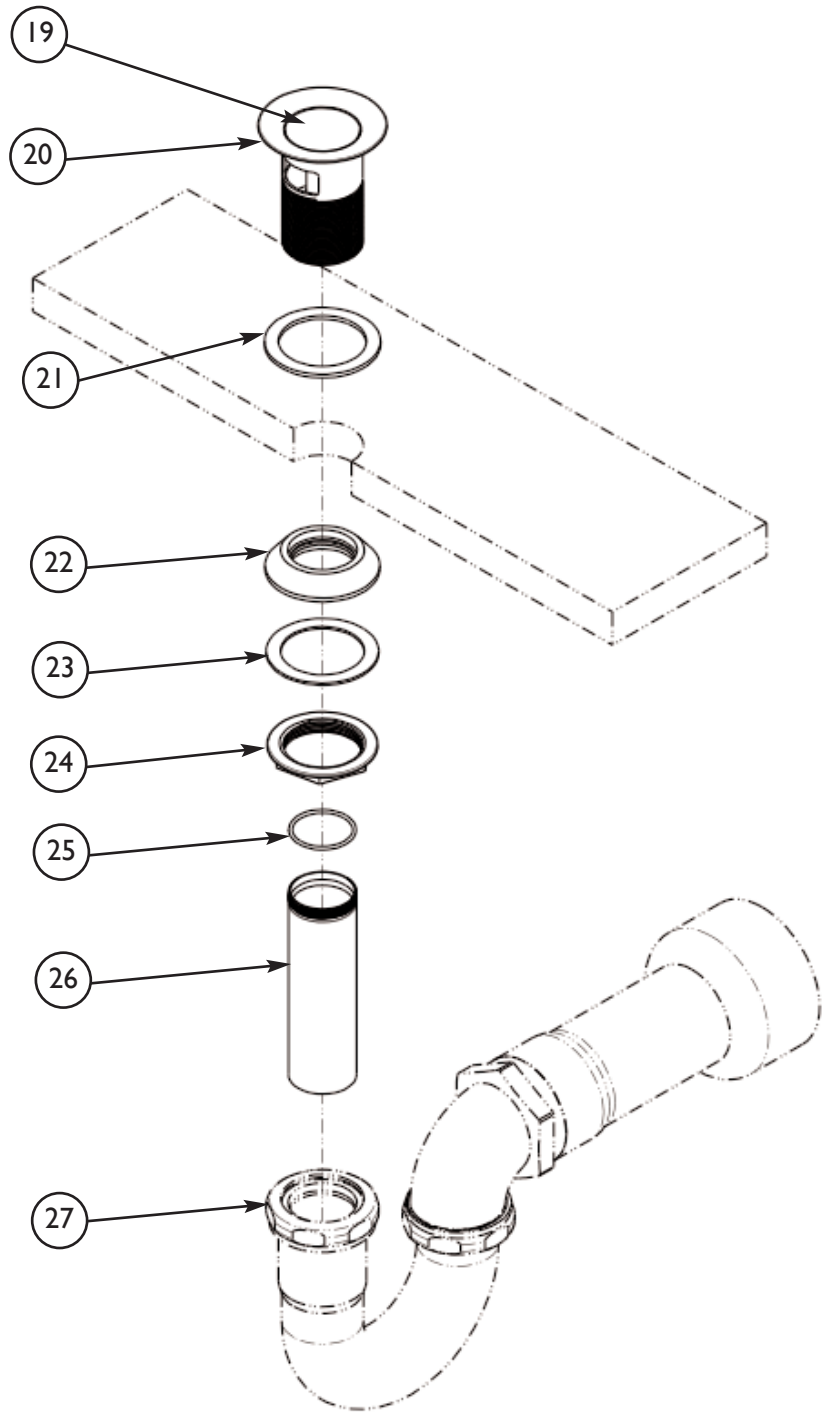

Figure 5
7. Do not remove drain PLUG (19) from FLANGE (20). Place FLANGE (20) and white WASHER (21) through sink drain opening. (Clear silicone may be used in place of white washer.) From bottom side of sink, place cone shaped rubber WASHER (21) onto FLANGE (20) and slide up against sink bottom. Note: Cone portion of WASHER (21) to face upward. Next slide on clear flat WASHER (22) and secure with flange NUT (23). Assemble O-RING (24) to TAILPIECE (25) and attach to drain FLANGE (20). Attach TAILPIECE (26) to p-trap drain (27) (not included). See **Figure 5**.